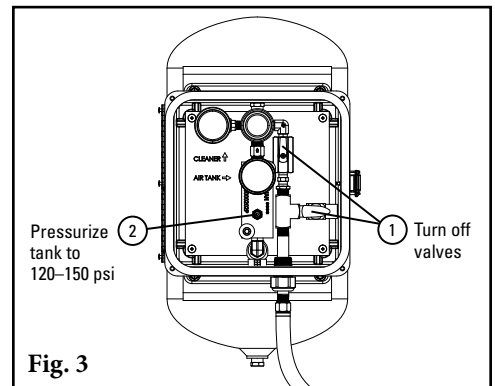

Fig. 3
3. **Turn off the bleeder valve and cleaner valve.** Using the fill valve, pressurize the tank to 120-150 psi (Fig. 3).